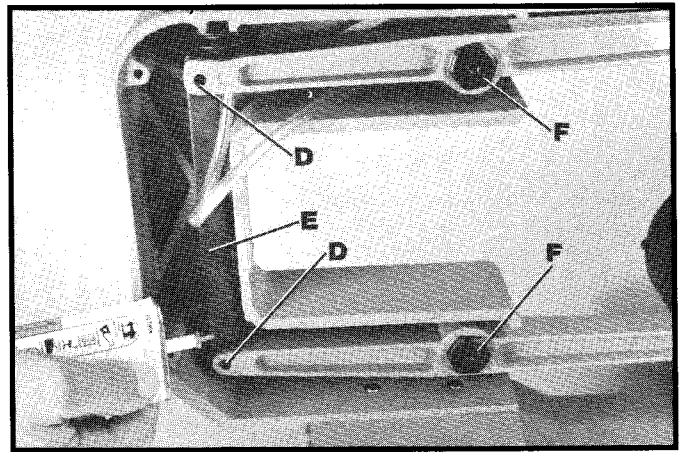

Fig. 42
4. Lubricate the shafts of two special screws (D) Fig. 42, with a few drops of light machine oil in the areas where they pass through the connecting link (E). **NOTE: DO NOT REMOVE SPECIAL SCREWS TO LUBRICATE.**
5. Remove two pivot bolts (F) Fig. 42.